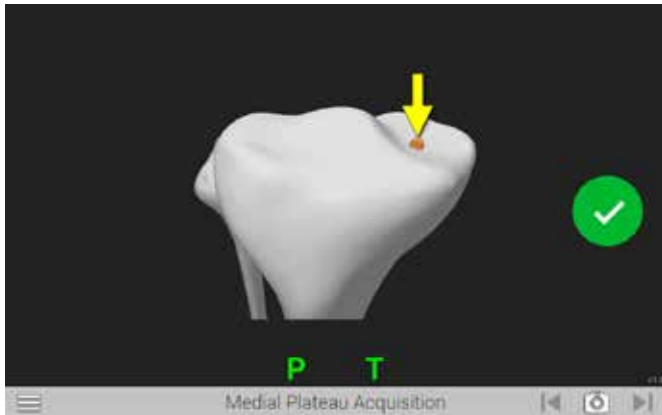

Figure 36
The Medial Plateau Acquisition screen is displayed (*Figure 36*). Position the tip of the Probe Tracker (P) on medial tibial plateau and press the Forward button. Ensure the tip of the tracker maintains contact with the tibial plateau and touch a point that captures the medial tibial plateau.